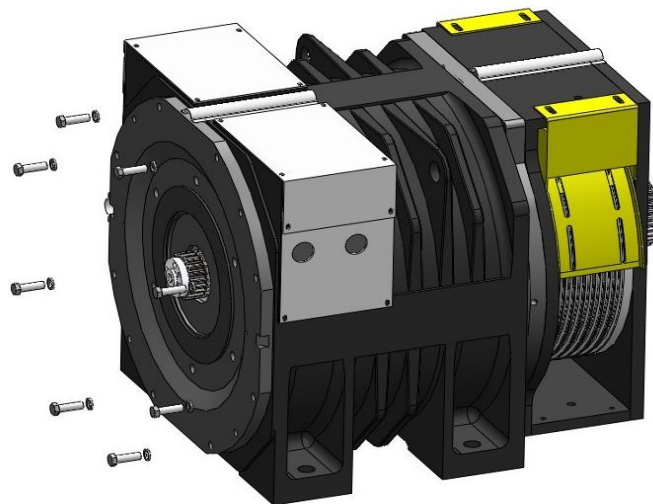

Figure 64: End Cover removal
1. Make a mark for the end-cover and machine base. Then loosen eight bolts M12x40 with open end wrench (18mm). See Figure 64.